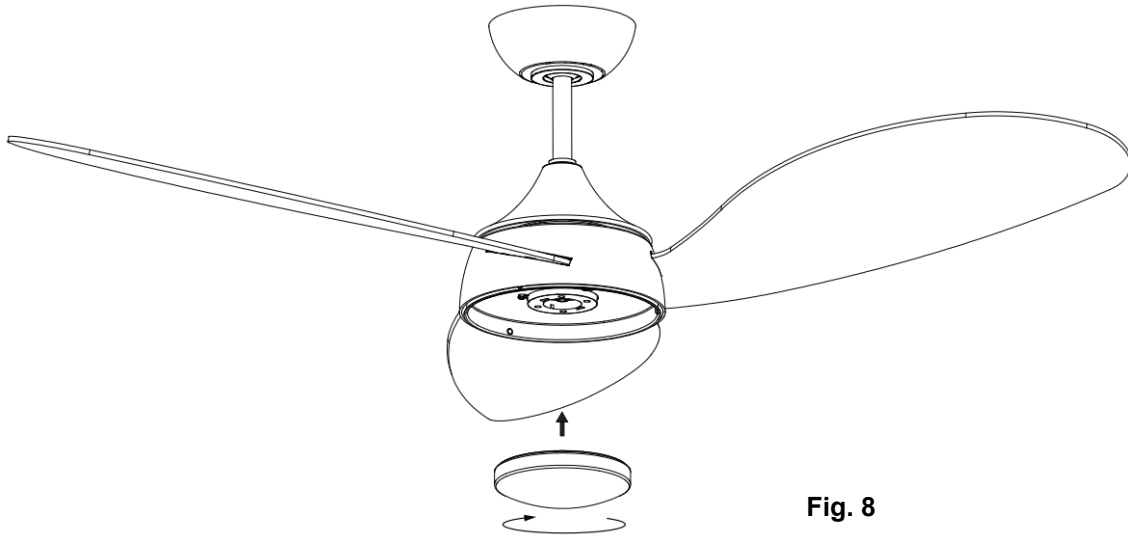

Fig. 8
INSTALLATION OF LAMP (Fig. 8)
- Install the GX53 lamp on the fan assembly, then secure it by turning clockwise. (Fig. 8)